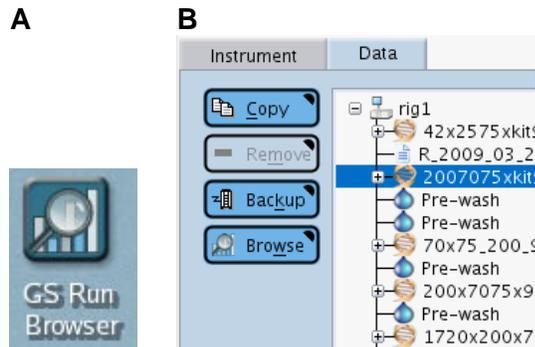

Figure 32: (A) GS Run Browser desktop icon. (B) 'Browse' button on the Data tab of the GS Sequencer application
- From the Genome Sequencer FLX Instrument desktop double-click on the GS Run Browser icon (Figure 32 A). From the GS Run Browser application window, click on 'Open a Data Set' link under the Quick Start topic and use the file navigation window to select a data set (R_... or D_... folder), then click 'OK'.
- From the GS Sequencer application 'Data' tab select a data set (R_... or D_... folder), then click on the 'Browse' button (Figure 32 B).